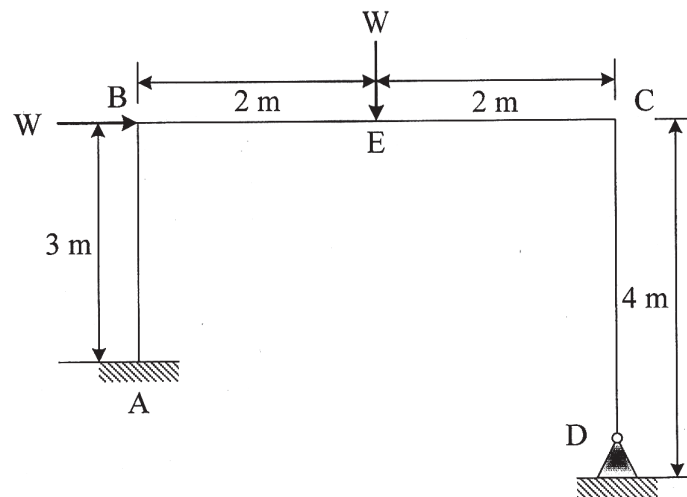

Fig. 8 (b)
- (b) Determine the collapse load for the frame shown in Fig. 8 (b) assuming uniform  $M_p$  for all members. [8]